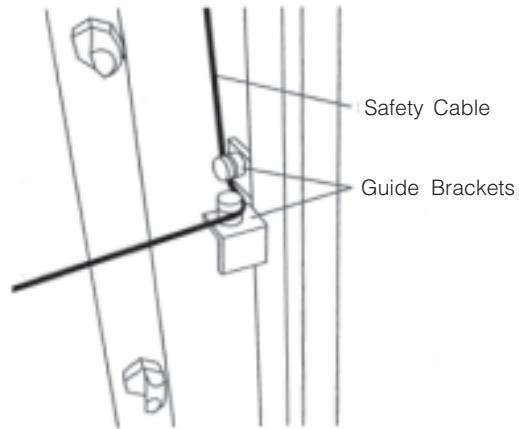

Figure 3-31. Position Non-Service Side Safety Cable Around Guide Brackets
15. Feed non-bolted end of the non-service side cable through socket into the microswitch box mounted on top of the cabinet. Ensure cable is positioned around both guide brackets (see Figure 3-31).